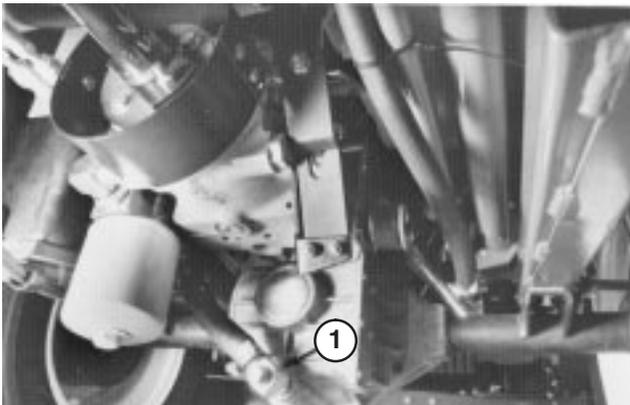
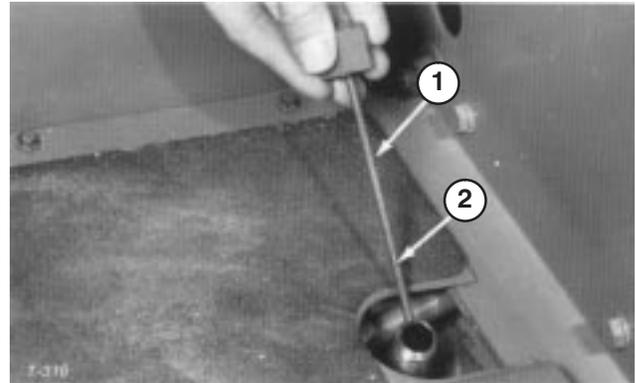

Figure 65
Figure 66
4. Remove drain plug from fitting between axle housing and oil filter and allow oil to flow into drain pan (Fig. 65).
6. Install drain plug in fitting between axle housing and oil filter (Fig. 65).
7. Remove dipstick from axle filler tube (Fig. 66) and fill axle to proper level with correct type and viscosity oil recommended for expected ambient temperature conditions; refer to table above.
9. Leave machine set for two additional minutes, then remove dipstick and check oil level in axle (Fig. 66). If level is low, add oil until level matches groove in dipstick (Fig. 66). If level is too high, remove drain plug (Fig. 65) and drain oil until oil level matches groove in dipstick.